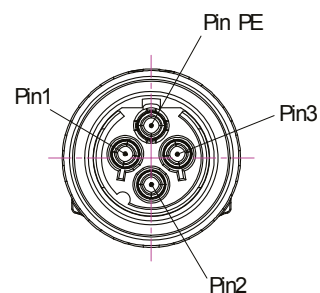

figure 4-18 Mains power cable - AC
4. Wire the power cable to the junction box or receptacle. Refer to the color code and pin numbers shown in figure 4-18 (AC cable), and table 4-2.